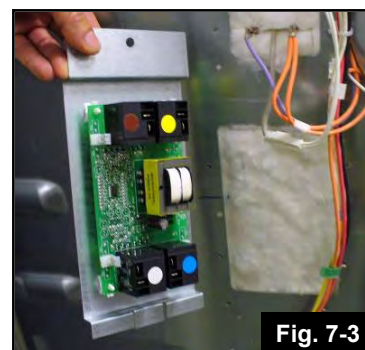

Fig. 7-3
3. Mount the Safe-T-element® Controller on the adapter plate, using the PCB supports. (Fig.7-3)